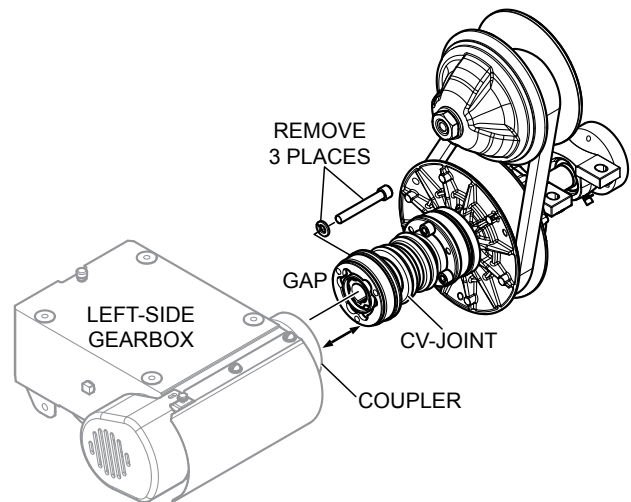

Figure 33. CV-Joint Removal
secure the CV-joint (Figure 33) to the left-side gearbox. Retain mounting hardware for later use.
- Once the CV-joint has been separated from the left-side gearbox coupler, push the CV-joint inward so that a gap (Figure 33) exists between the gearbox coupler and CV-joint.